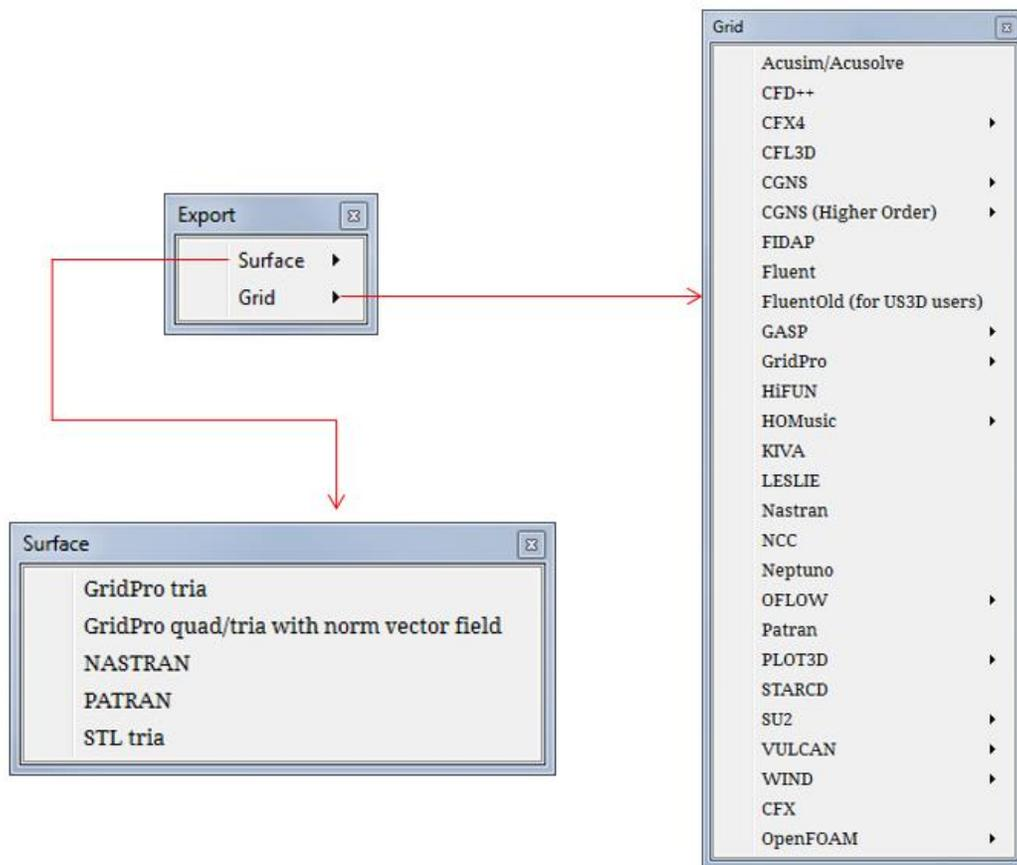

Figure 2.19: Export formats of surface and grid
**Export** option allows you to export various surface and grid formats from *GridPro*. Once the appropriate format is selected, it converts the file from *GridPro* format to the selected output format and saves it in the working directory. Figure 2.19 shows various export surface and grid formats available in the UI.